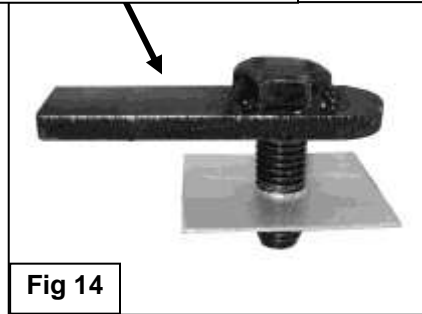

Fig 14
6. Move toward the rear location, **(Figure 1)**. Remove the sealing tape covering the (2) factory oval holes. Select (1) 12mm x 40mm Bolt Plate and (1) 12mm Plastic Retainer. Partially thread the Retainer onto the Bolt Plate, **(Figure 14)**. Insert the Bolt Plate into the forward oval hole. Thread the Retainer down tight against the body panel, **(Figure 15)**. Repeat to install the 2nd Bolt Plate in the remaining factory hole.